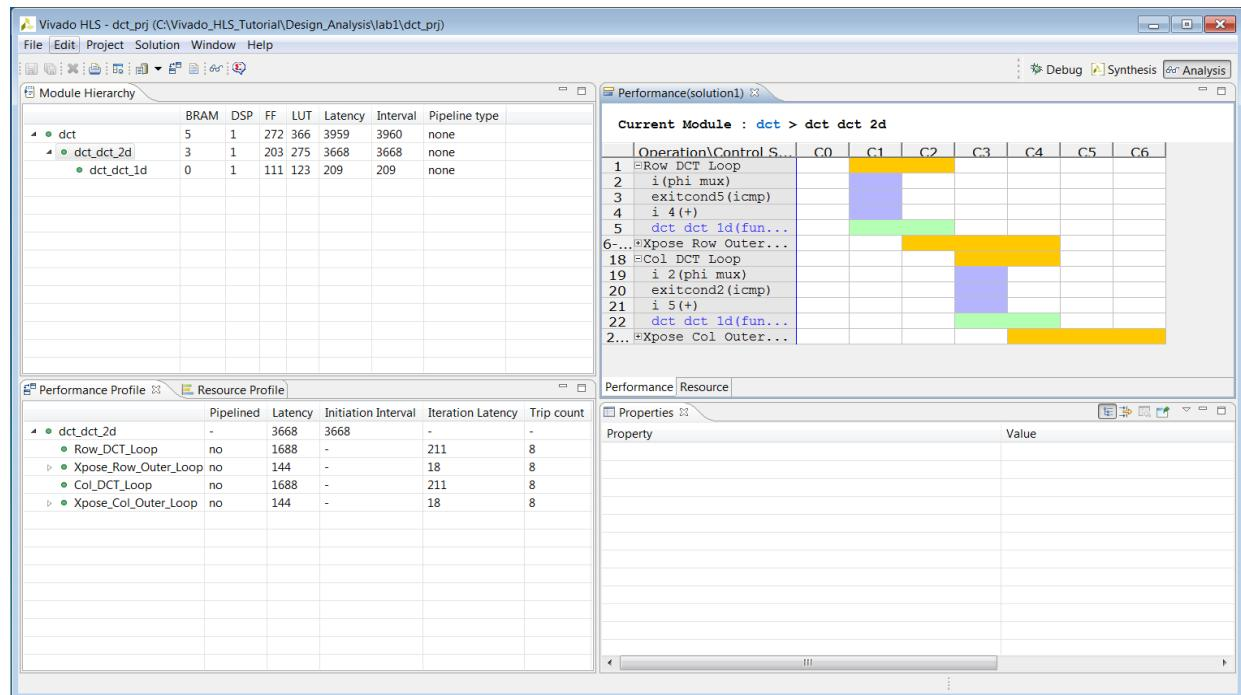

Figure 6-11: DCT_2D Performance View
6. In the Module Hierarchy pane, click the function **dct_dct_2d** to navigate into the view for this function (Figure 6-11).
In the Performance Profile you can see that the latency of all the loops has been substantially reduced (Row_DCT_Loop and Col_DCT_Loop have been approximately halved from the earlier report in Figure 6-11). However, the majority of the latency is still due to these two loops, each of which calls the `dct_1b` block.